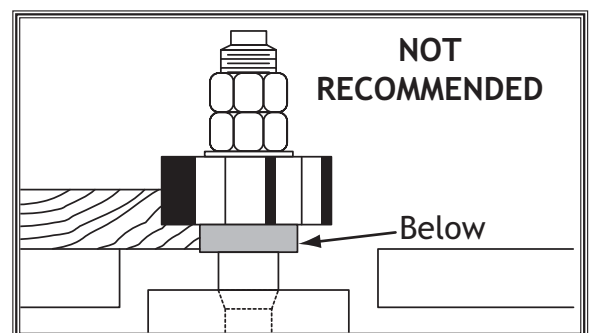

Figure 32. Rub collar mounted below cutter.
- **BELOW THE CUTTER** as shown in **Figure 32**. This setup allows the cut to be viewed by the operator; however, it is also the most dangerous because the operator is exposed to the moving cutter. **WE DO NOT RECOMMEND SHAPING WITH A RUB COLLAR BELOW THE CUTTER!**